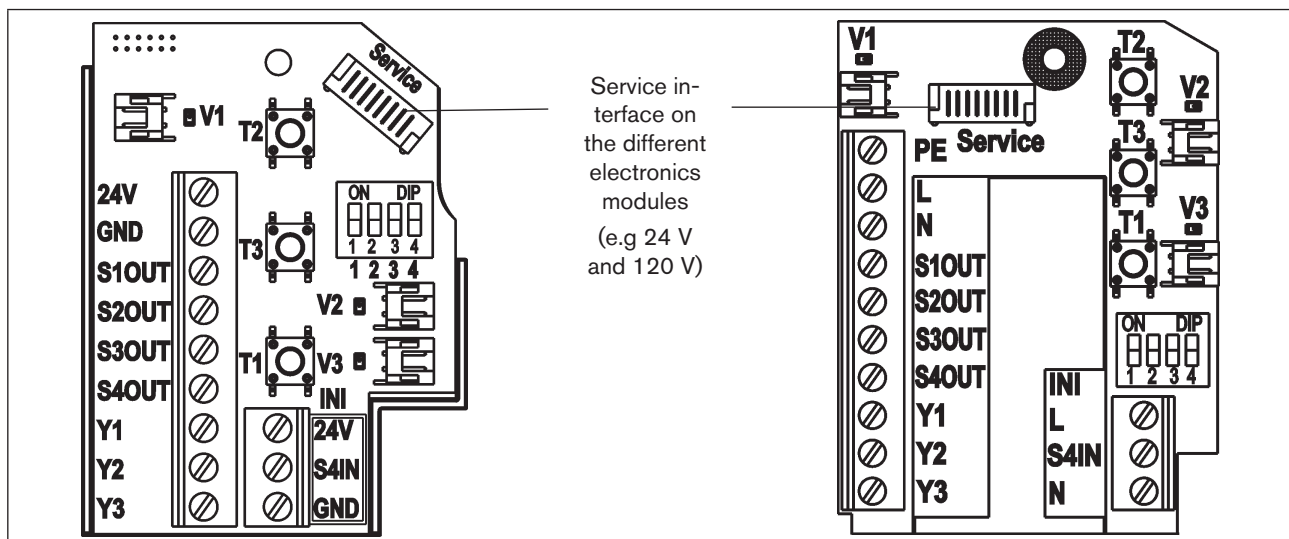

Fig. 9: Location of the Service interface on the electronics module
Connection to the PC is via the Service interface - see "Fig. 9: Location of the Service interface on the electronics module".
**Deactivation is possible using** the PC service program. Connection to the PC is via the Service interface - see "Fig. 9: Location of the Service interface on the electronics module".